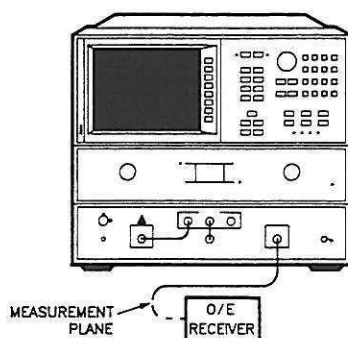

Figure 22. Receiver Optical Reflection Measurement Setup
5. Do not connect the cable to the DUT as shown in Figure 22. Press: